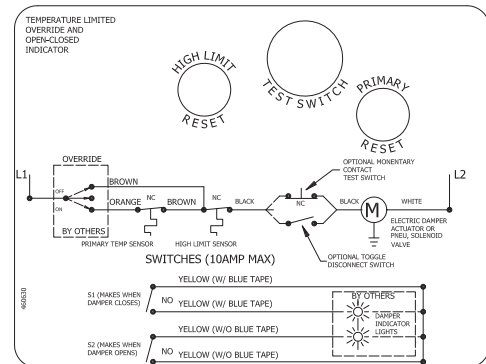

Figure 11: TOR
**TOR:** The TOR (temperature override device) option incorporates two thermostats with fixed settings (usually 165°F [74°C] and 350°F [177°C]). The primary sensor (the sensor with the lower temperature setting) can be bypassed by an external contact closure allowing the damper to reopen until the secondary temperature is reached (the sensor with the higher temperature setting). See **Figure 11**.
The TOR assembly contains two single pole single throw switches used to indicate damper blade position. The switches provide a positive open and closed signal and can be used in conjunction with remote indicator lights. See **Figure 11** for wiring of the TOR thermostats and indicator switches.